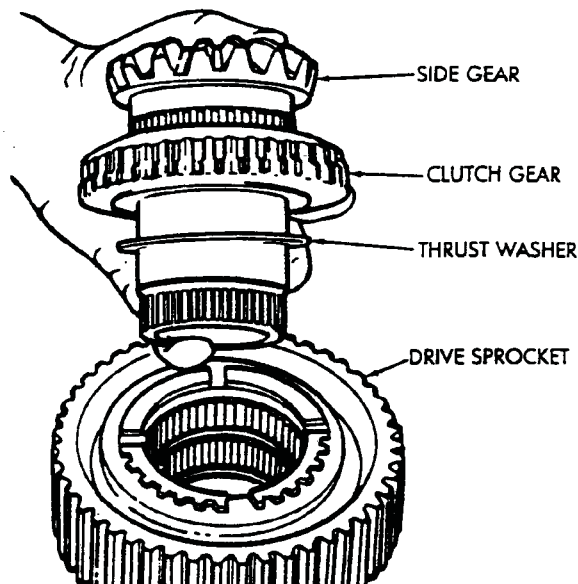

Fig. 4-24 Disassemble Gears and Sprocket
35. Remove the side gear, clutch gear and thrust washer from the drive sprocket (Fig. 4-24).